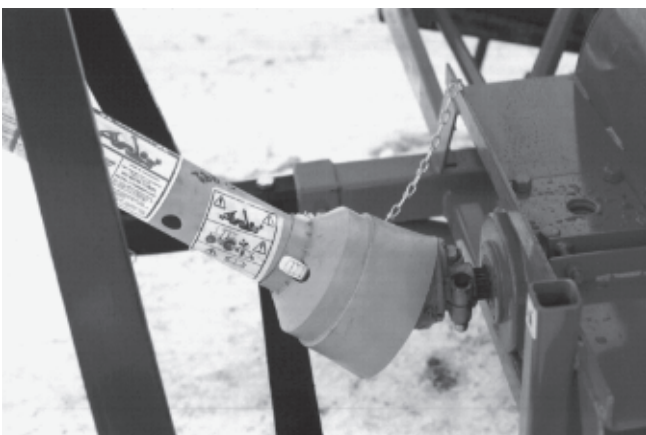

Figure 18
- 4) Install P.T.O. shaft # 9225-EG onto the gear box (or the P.T.O. shaft # 9569 onto the RPM reducer) and place the shear pin end on the Snowblower side. Then attach safety shield support chain as shown (Fig. 18). **WARNING:** The telescoping tubes of the drive shaft must never be allowed to bottom out while maintaining a minimum overlap of 6 inches.